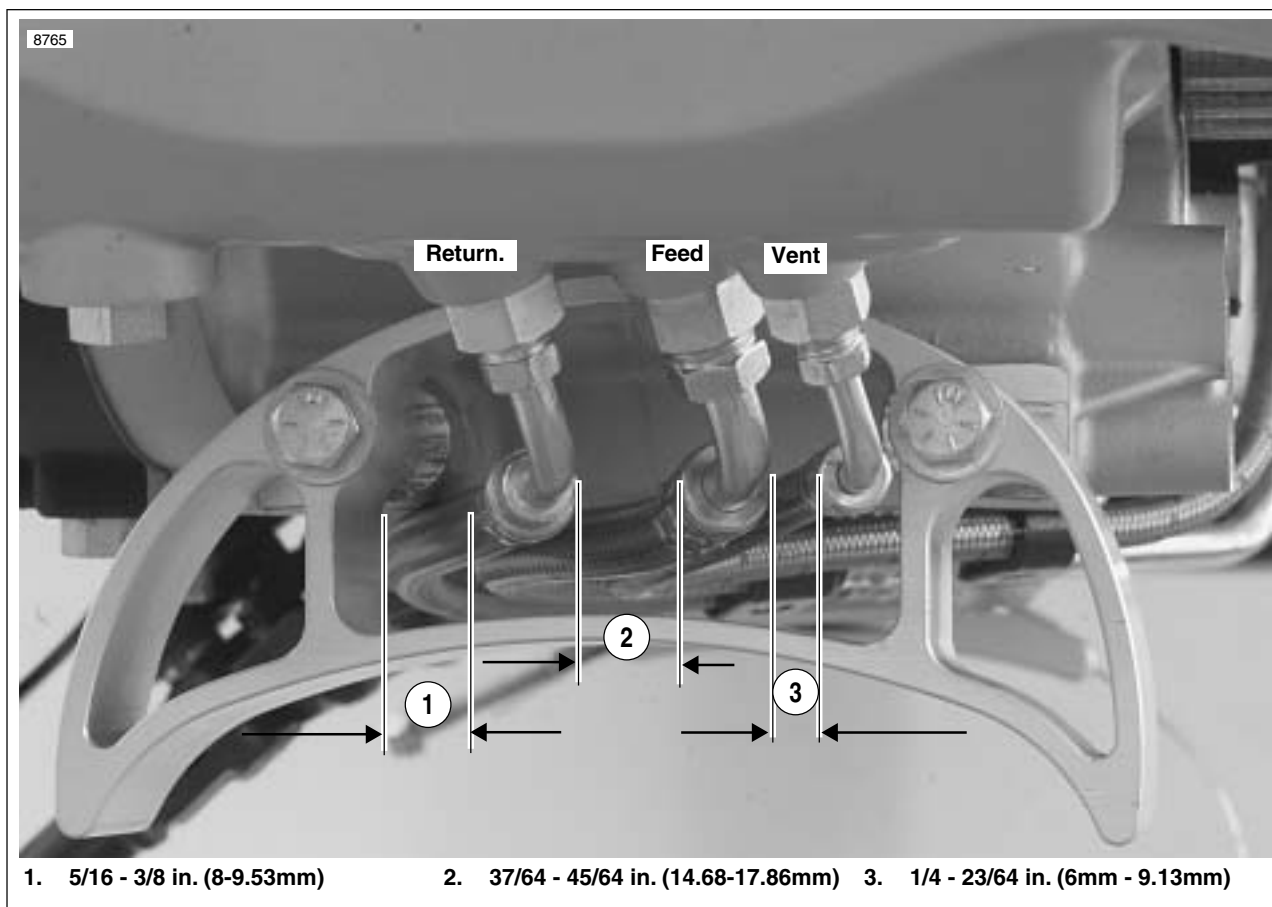

Figure 3-49. Oil Line Clearances and Torques
21. See Figure 3-49. Install the return, feed and vent oil lines starting at the swingarm/oil reservoir and working towards the front of the vehicle. Leave all oil line fittings loose at this time.
22. See Figure 3-49. Torque the return oil line first making sure to maintain the proper clearance between the oil line and the rear muffler bracket. 19-21 ft-lbs (25.8-28.5 Nm.)